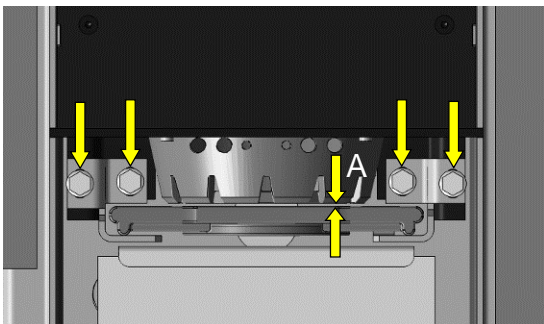

**Fig. 73: grate with curvature / warping**
1. Inspect the cast grate for wear and replace it as required. In case of curvature / warping of the grate of more than 1 mm (Fig. 73). In case of cracks in the material (Fig. 74).